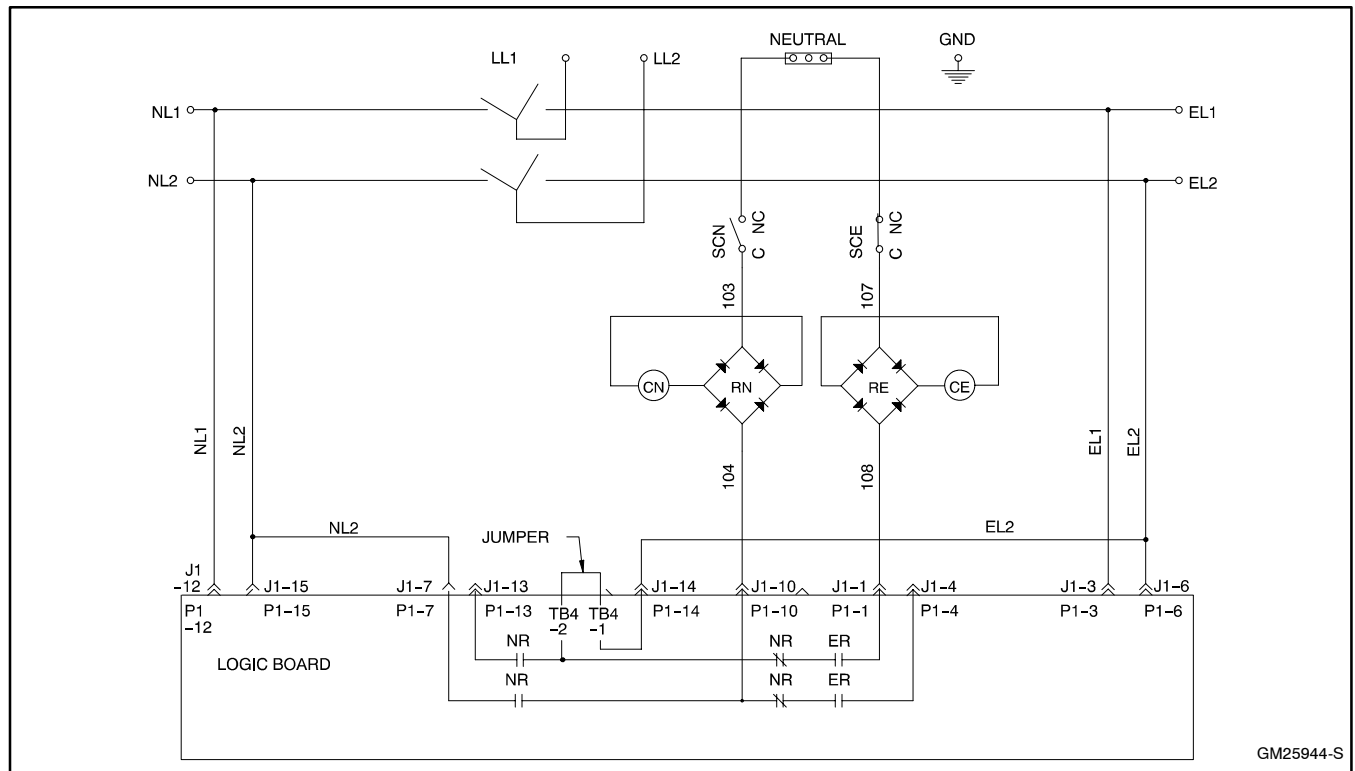

Figure 4-5 R220 Contactor in Normal Position, No Power Present
Contact SCE is closed in Normal and opens when the main shaft of the contactor reaches the Emergency position. See Figure 4-5. Contact SCN is closed in
3. Manually operate the contactor to the normal position and check for continuity between terminals J1-7 and J1-10 on the controller assembly. There should be no connection, replace the NR relay if there is. See Figure 4-5.
4. Coil-clearing contact SCE should be closed. Check for continuity across contact SCE between coil terminal 7 and neutral. Check the contactor wiring harness and connections or replace coil-clearing contact SCE if there is no continuity. See Figure 4-5.